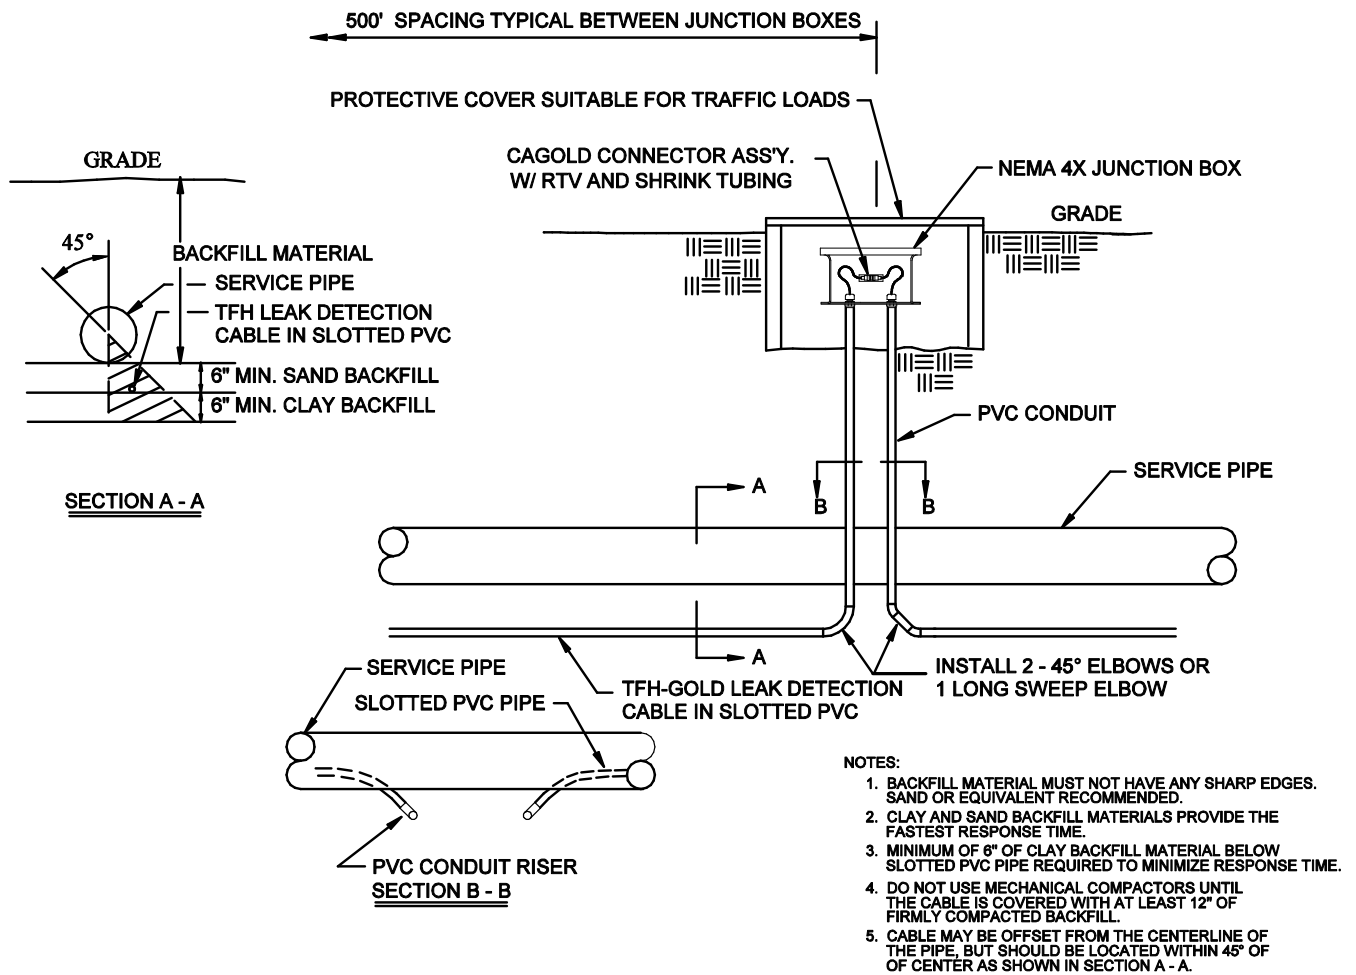

Figure 6-1
12. All connectors of sensor cable must be located in junction boxes at or above grade. A vertical riser of PVC conduit or other material suitable for the project must be installed to provide protection to the cable through the backfill and into the junction box (see figure 6-1). Follow the instructions for installing cable connectors using shrink tubing and RTV sealant to insure a watertight assembly.